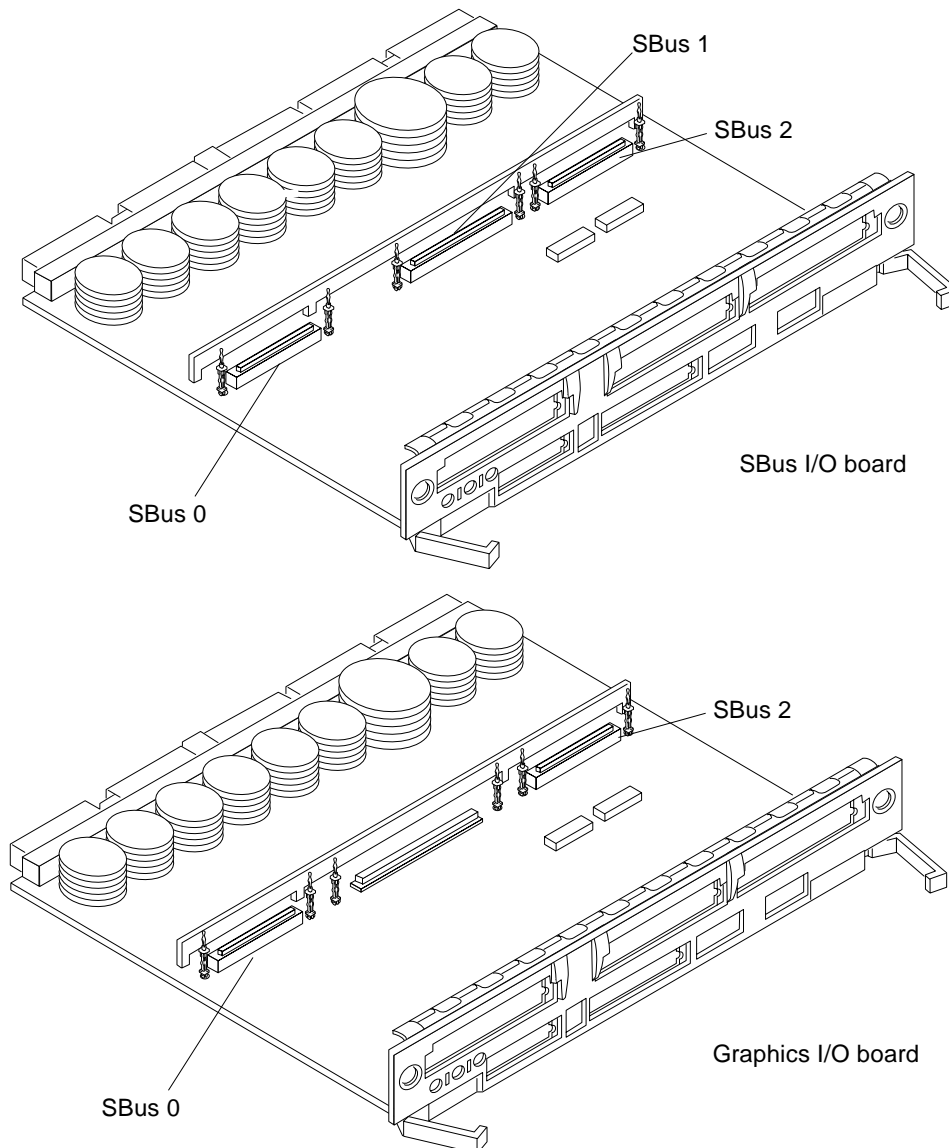

Figure 4-10 I/O Board SBus Card Locations
See Figure 4-10 on page 4-15.
2. Locate the SBus connector that the card is to be installed in. See Figure 4-10 on page 4-15.